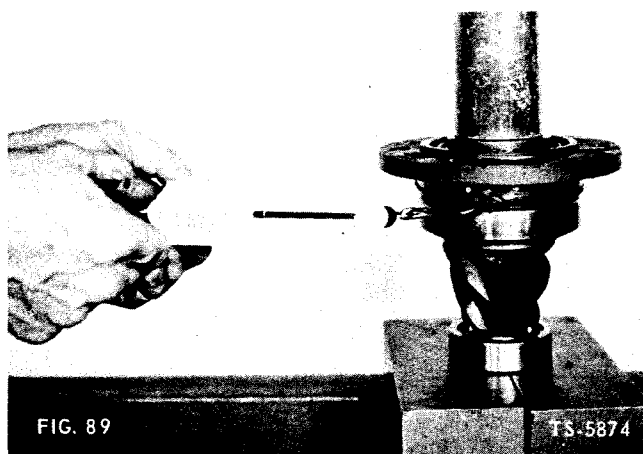

FIG. 89
10. Keep pinion and cage assembly in press with about 500 pounds of press pressure exerted on driver. Wrap several turns of soft wire or cord around pinion cage and pull in horizontal line with spring scale. While pulling in straight line (90 degrees from centerline of shaft), read spring scale and measure rotating torque (Fig. 89). Multiply reading on spring scale by one-half diameter of bearing cage to obtain preload torque. Correct preload torque is 13 to 23 in. lbs. If preload is not within these limits, remove shims to increase preload or add shims to decrease preload.